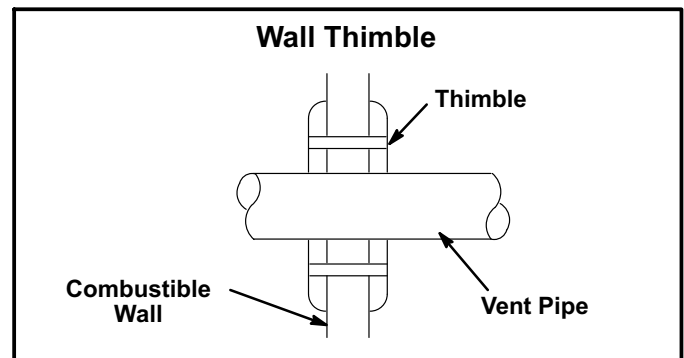

Figure 8
- 8 - The vent may pass through a wall where provisions have been made for a thimble as specified in the Standards of the National Board of Fire Underwriters. See figure 8.